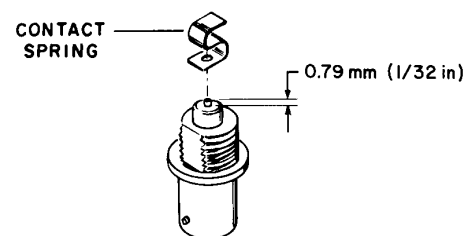
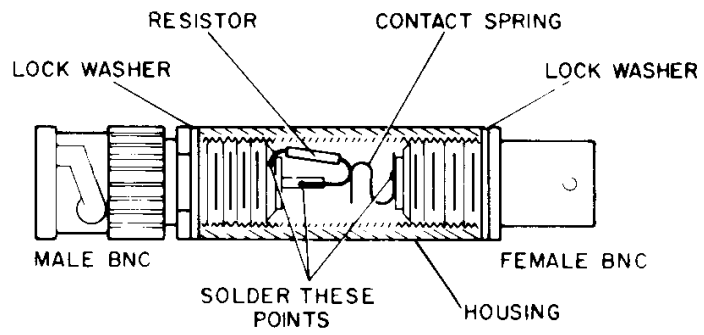

Figure 2 Cutting Center Conductor Lead to Accommodate Contact Spring
Figure 3 Load Resistor, Cutaway View
Parts referred to in the following procedures are identified in Figure 2 on page 9 and Figure 3 on page 10.
1. Remove the female BNC connector. Refer to **Figure 3** for parts identification.